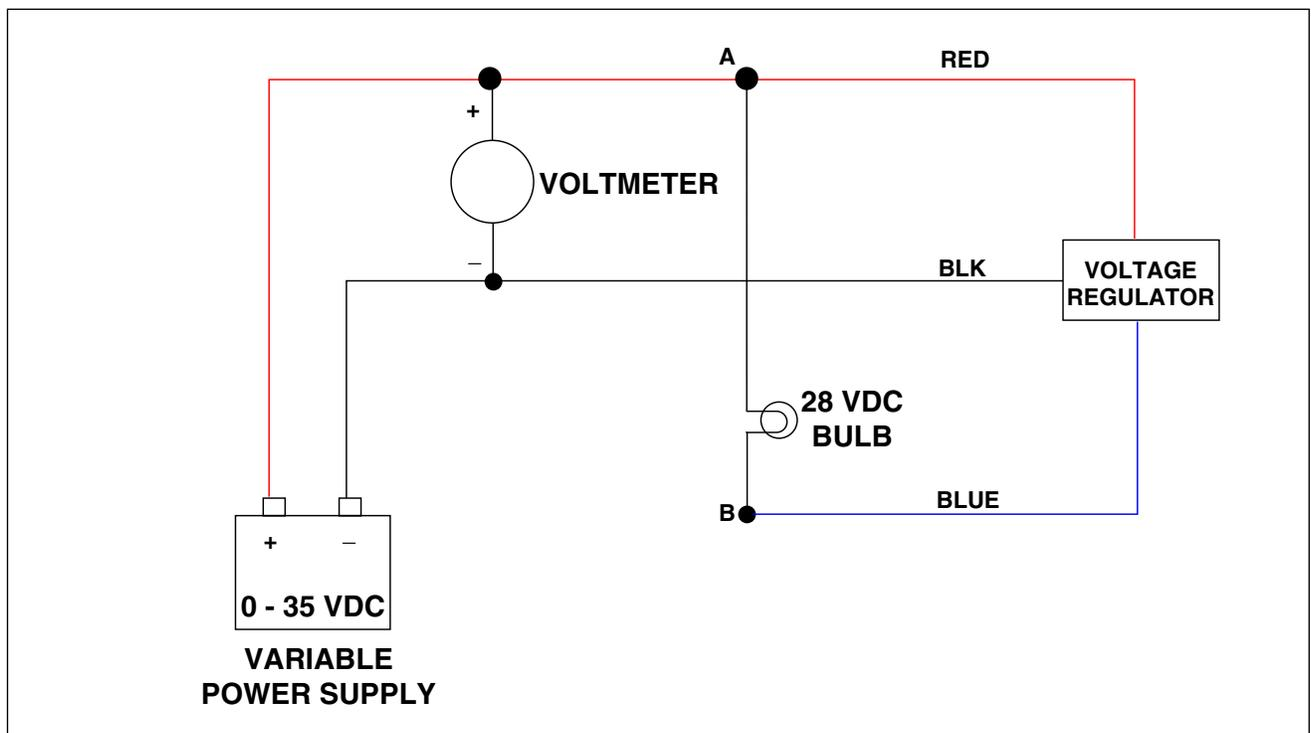

Figure 24-23. Lamar 28Vdc Overvoltage Check
4. Light Bulb Connections (refer to Figure 24-23)